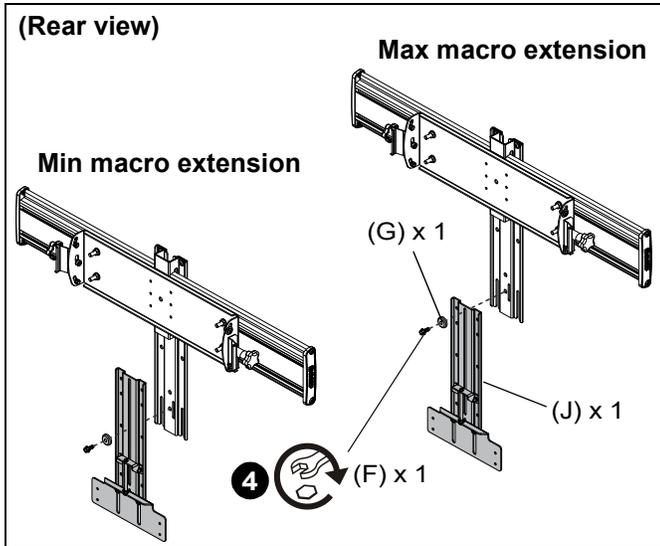

Figure 9
4. Use 1/4-20 x 5/8" hex head flange screw (F) and center washer (G) to secure lower adjustment assembly (J) to upright assembly (A).
- **(Maximum macro extension)** Slide lower adjustment assembly (J) until top of channel stops against 1/4-20 x 5/8" screw. (See Figure 9)
- **(Minimum macro extension)** Slide lower adjustment assembly (J) until top of bracket stops against bottom of rail bracket. (See Figure 9)